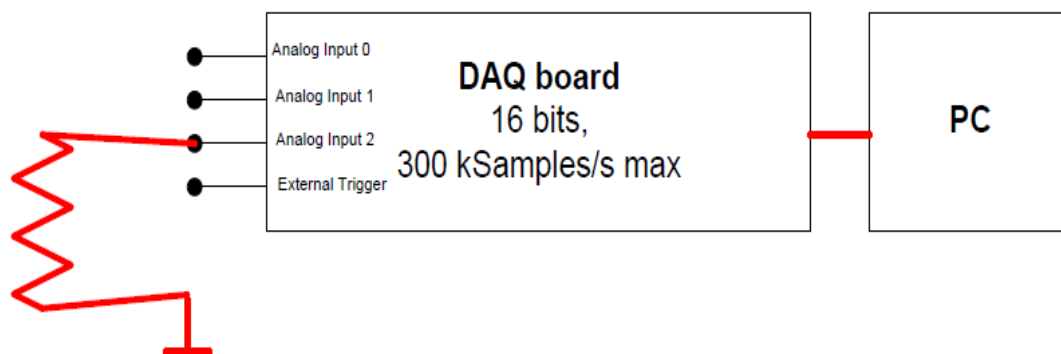

Figure 6 : *In order to measure the resistor's noise without amplifier, the resistor is directly connected to the digital acquisition board.*
1. Plug a resistor (e.g. 10 k Ω) on the support whose the two ends are connected to the input of the ADC controlled by the PC (see Figure 6, CH0).